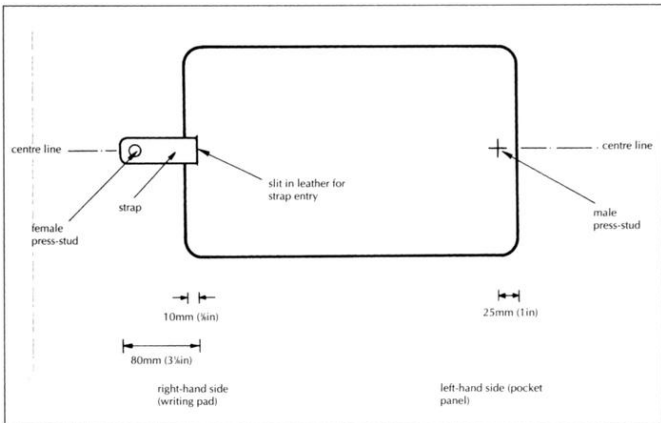

Fig 152 Closure strap attachment, outside view.
6. Fix male press-stud in position, as shown in Fig 152.